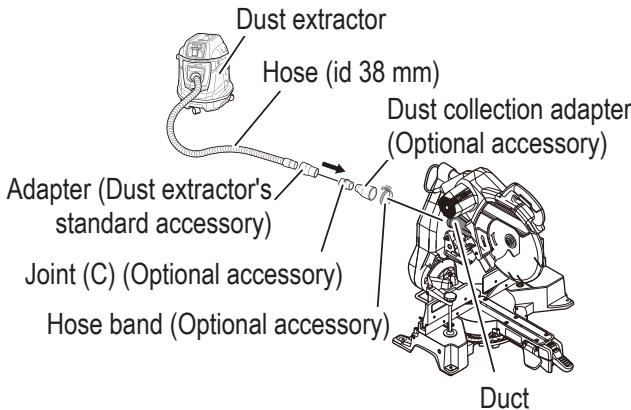

Fig. 33
16. Connecting the dust extractor (Sold separately) (Fig. 33)
Connection is done by pressing in the direction of the arrow. (Fig. 33)